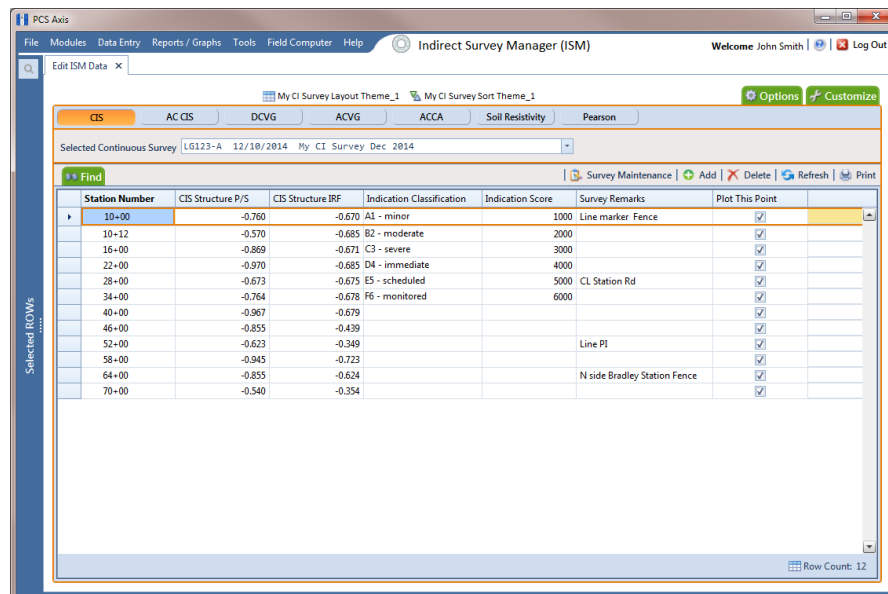

Figure 7-82. Edit ISM Data
- 3 Click **Data Entry > Edit ISM Data** to open the ISM data entry grid. Then click a button labeled with the type of continuous survey data you want to work with, such as the **CIS** button  (Figure 7-82).